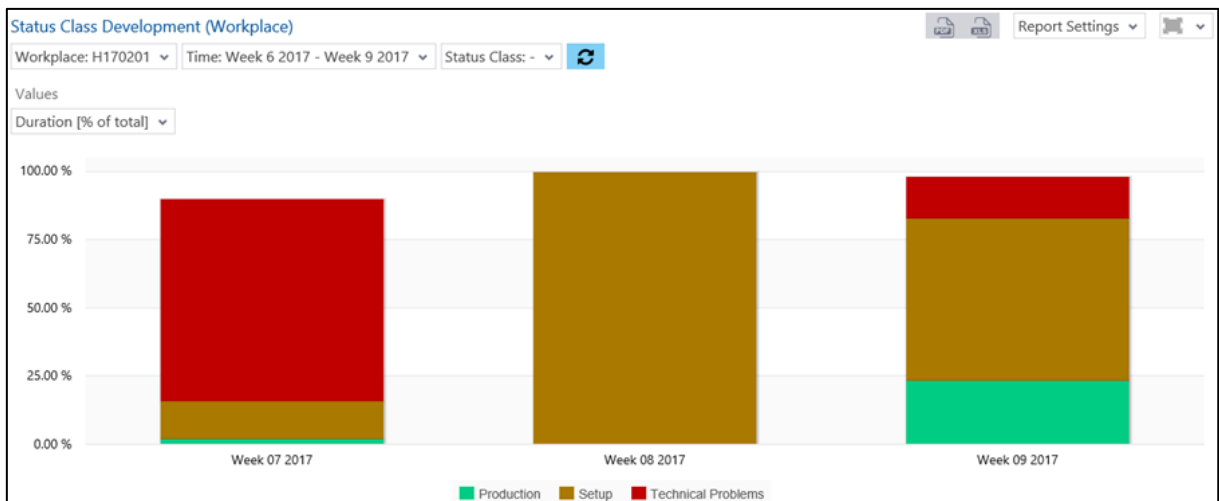

Fig. 57: Operating state class development (workplace) as column chart
- Operating state class development (workplace) as column chart (fig. 57):